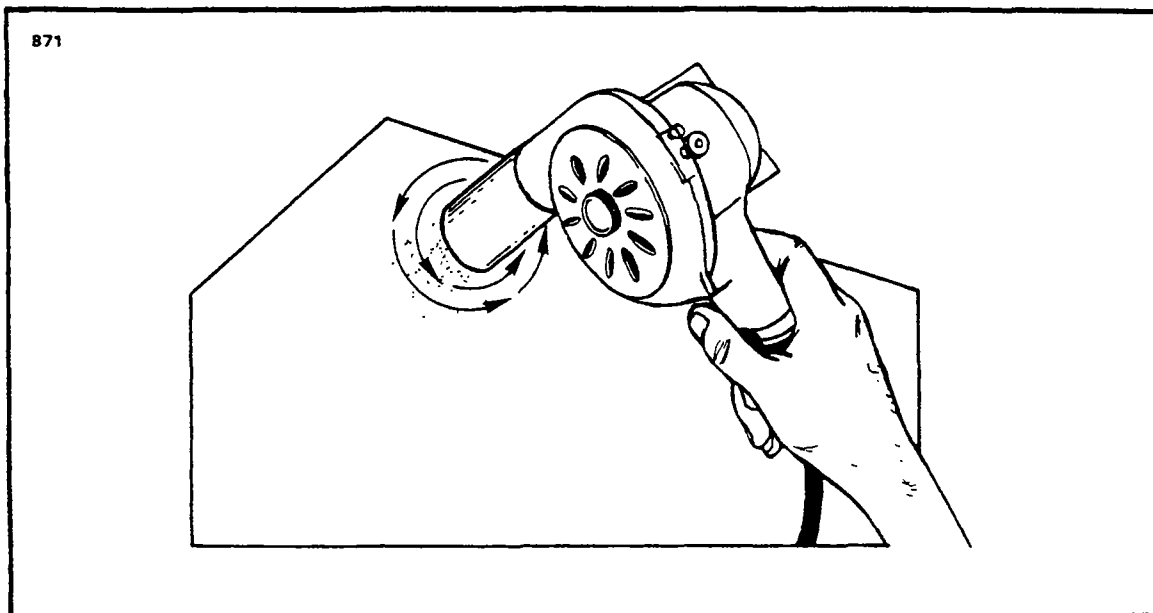

Figure 4-11. Surface Scratches, Abrasions or Ground-in-Dirt
- b. Surface Scratches, Abrasion or Ground-in-Dirt: (Refer to Figure 4-11.)